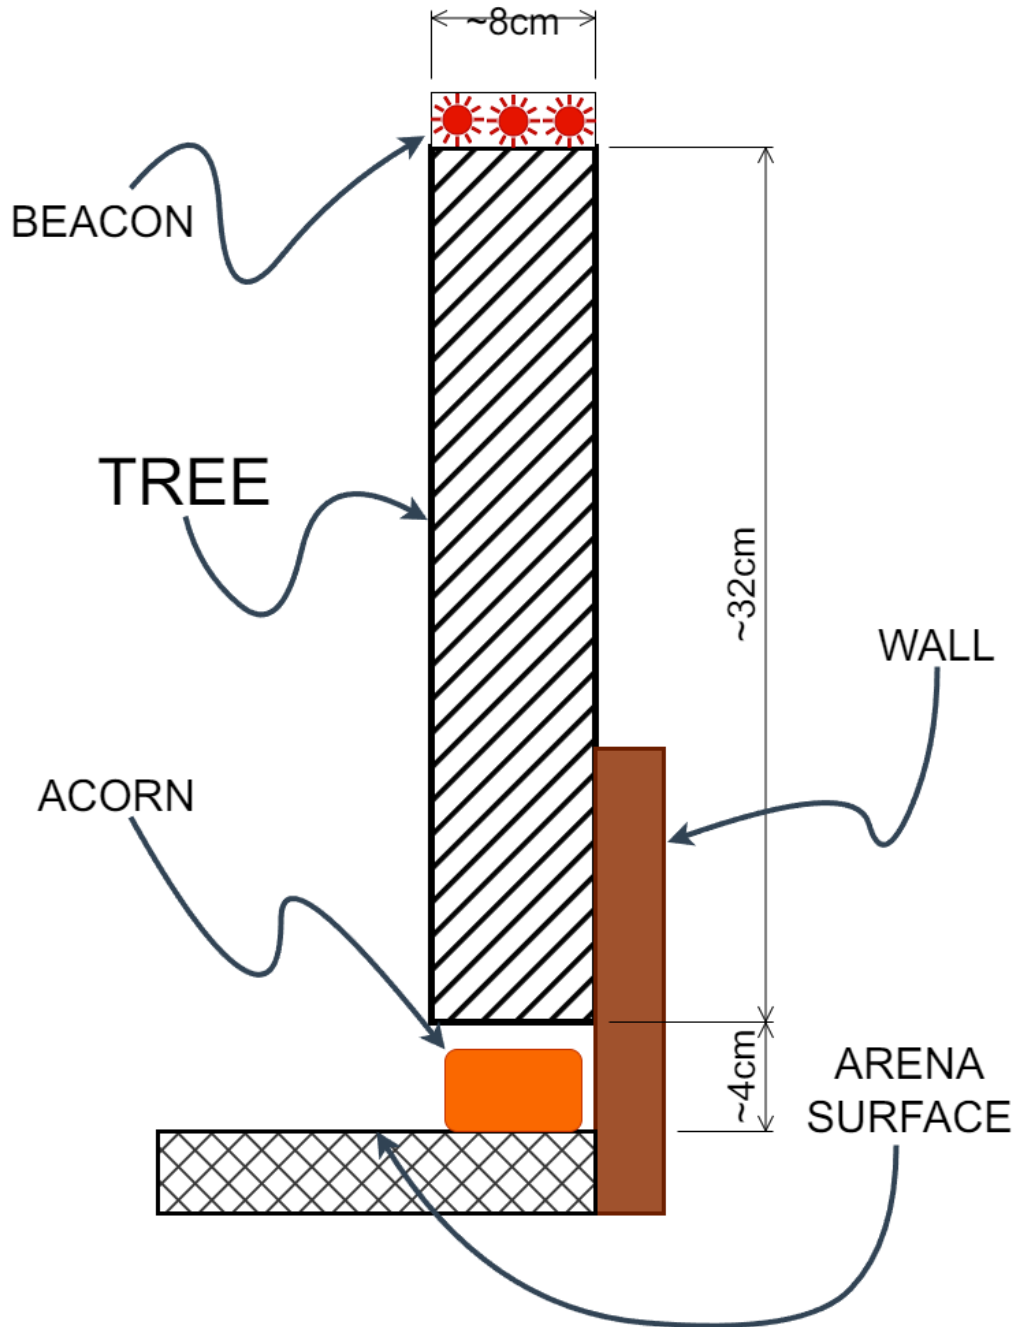

Figure 2: Side view of a TREE. All dimensions are ± 1 cm.
- A side view of a TREE is shown in Figure 2.